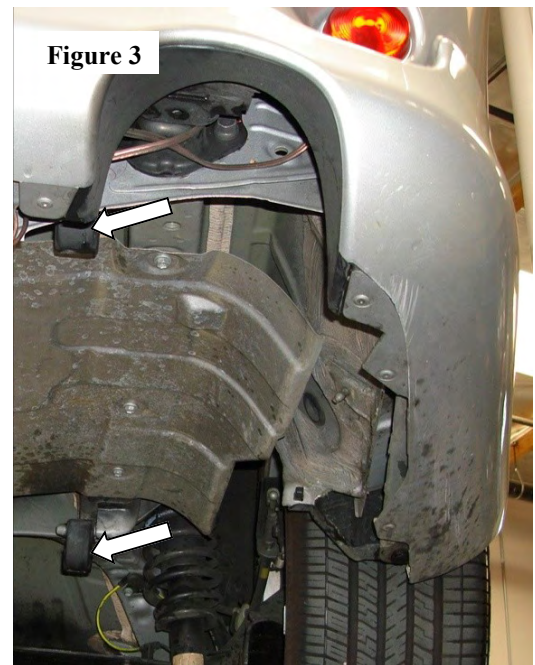

Figure 3
1. Install muffler assembly into using OE rubber isolators. (See Figure 3)